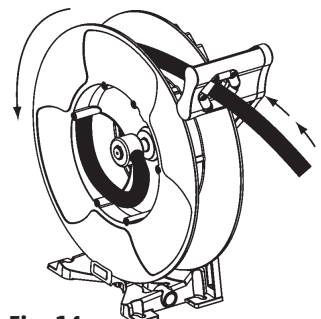

Fig. 14
3. Gently pull the hose, it will be automatically rewound (fig. 14).
3. Gently pull the hose, the hose is automatically rewound (fig. 14).